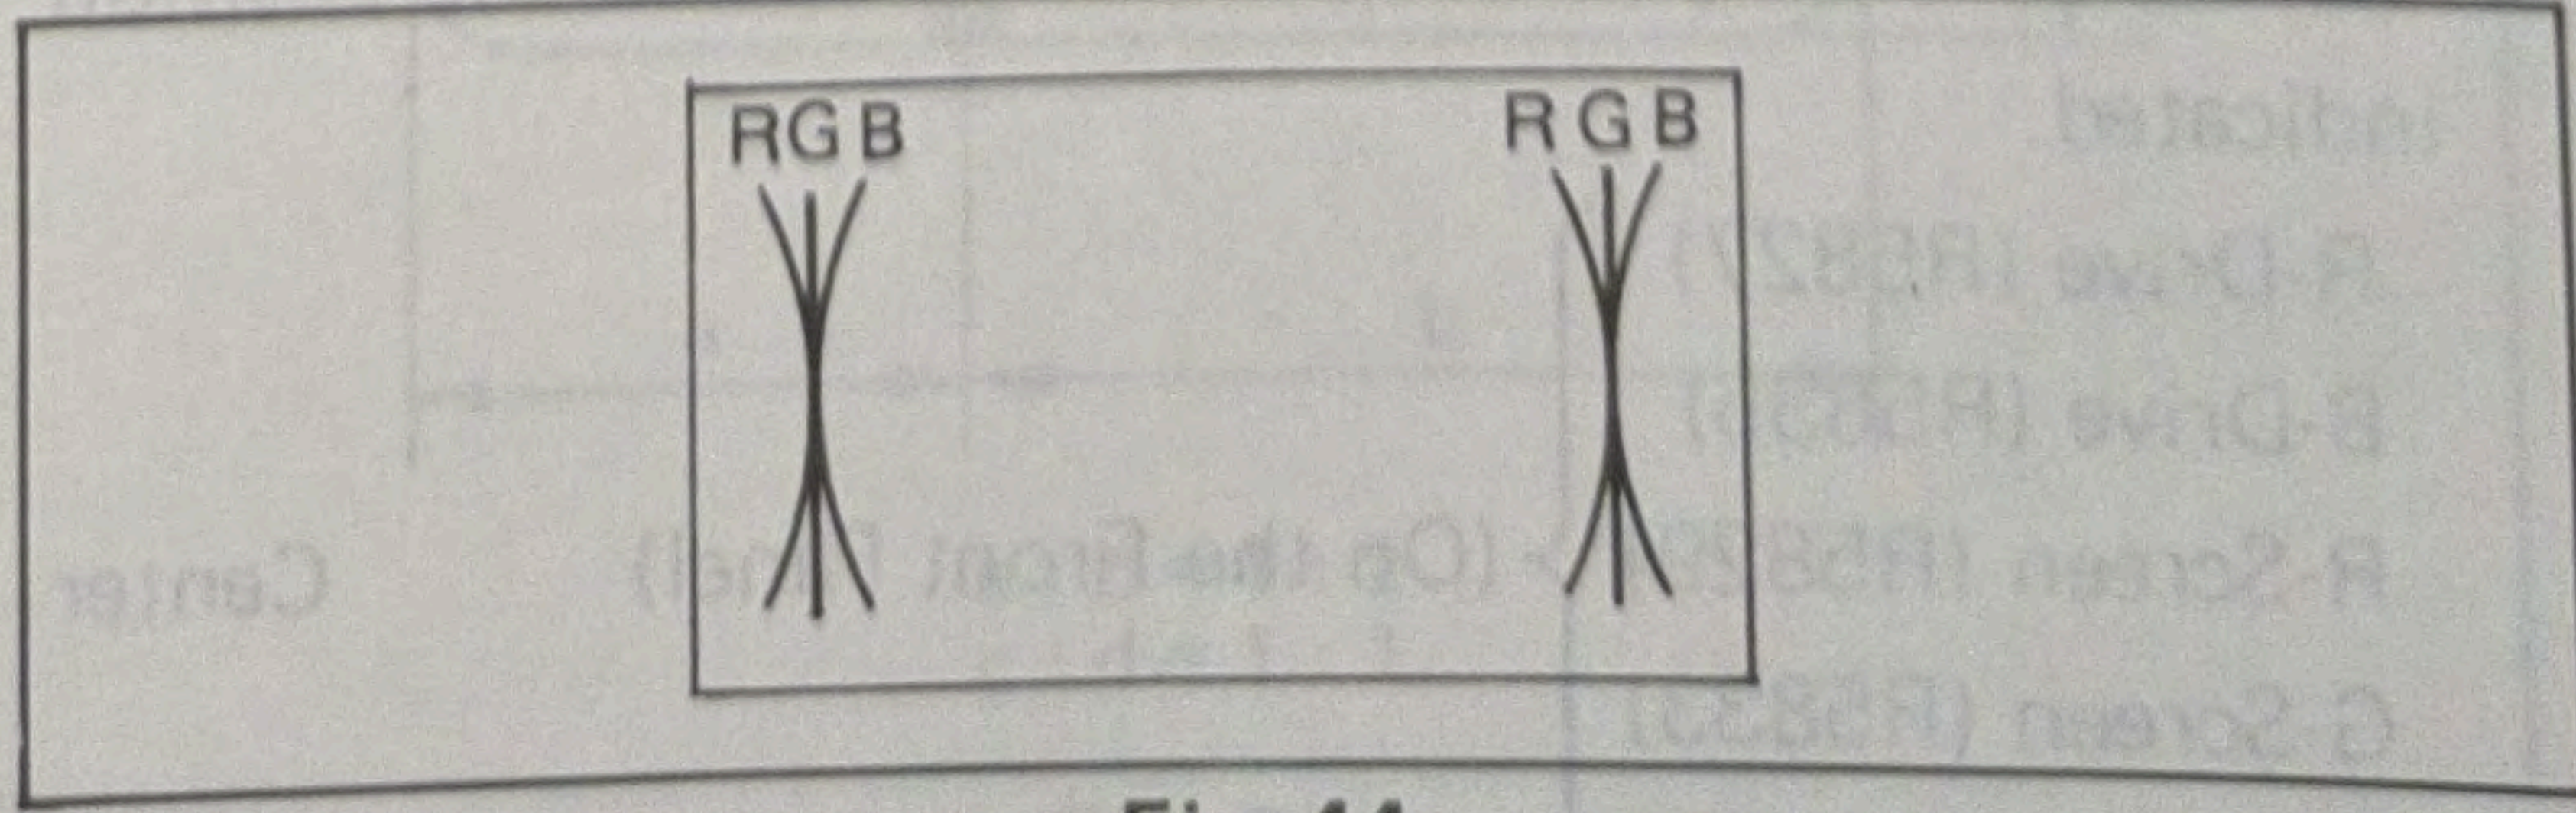

Fig. 44
- Adjust the convergence of the fringe area (four corners), using R472 and R473 as shown in Fig. 44.